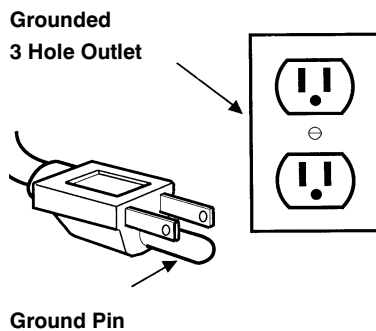

FIG. 1
1. Connect only to a grounded 120 volt A.C. (3 hole) electrical outlet. **See Figure 1.**